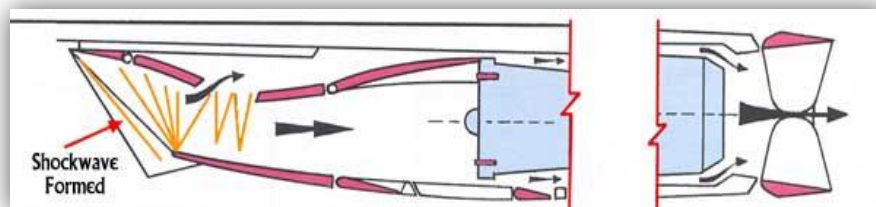

Figure 8. The external compression air intake of the Concorde was achieved by means of movable devices inside the intake.
**External compression air intakes** are composed mainly of a central core whose function is to produce a gradual compression of the airflow through the intake (*figure 8*). It can exist a wedge instead of a central core. The core itself produces oblique shock waves, which in terms decrease supersonic speeds. The more the oblique shock waves are present the more gradual the transition to subsonic speeds is. The chain of oblique shock waves ends with a normal shock wave as it has been stated previously. Thus, the energy loss is taken to a minimum –more thrust can be delivered by the engine–.